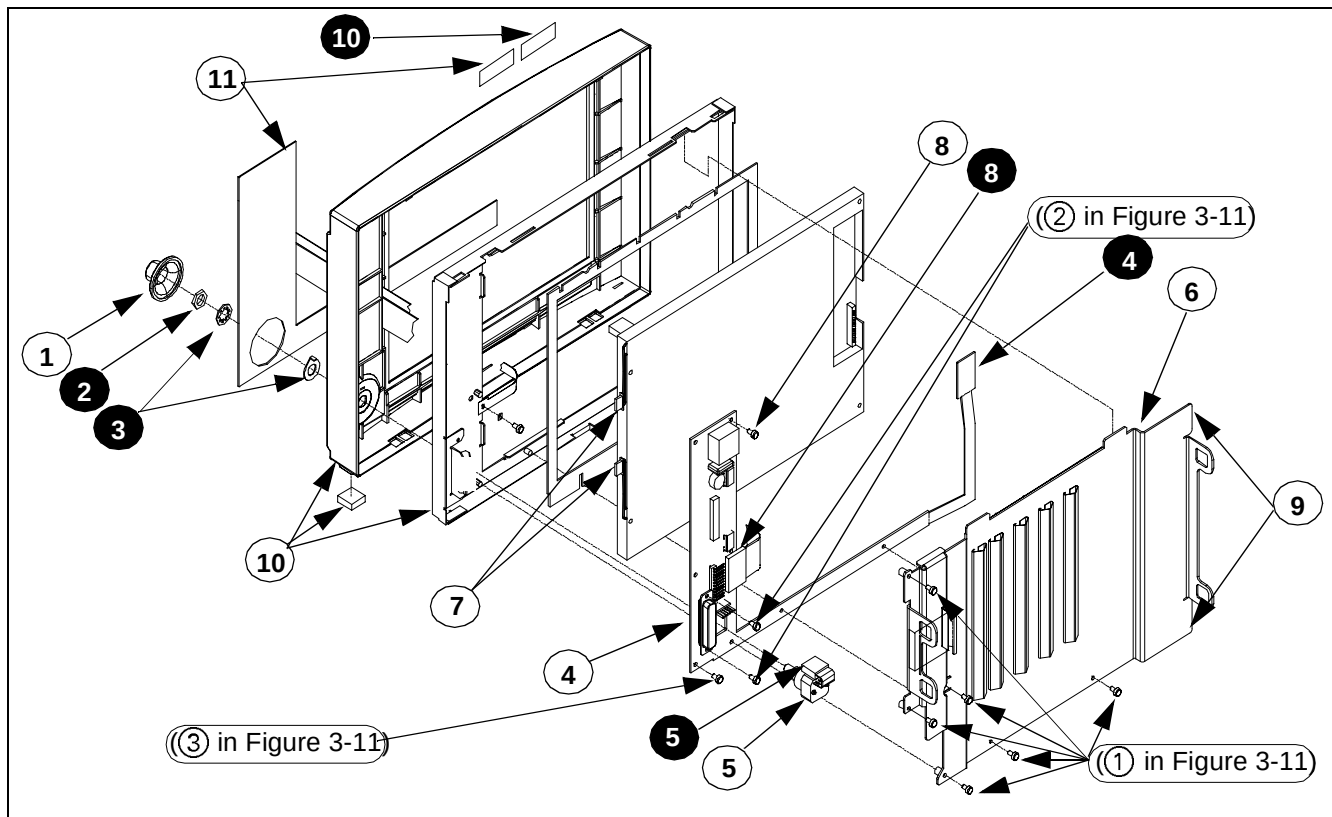
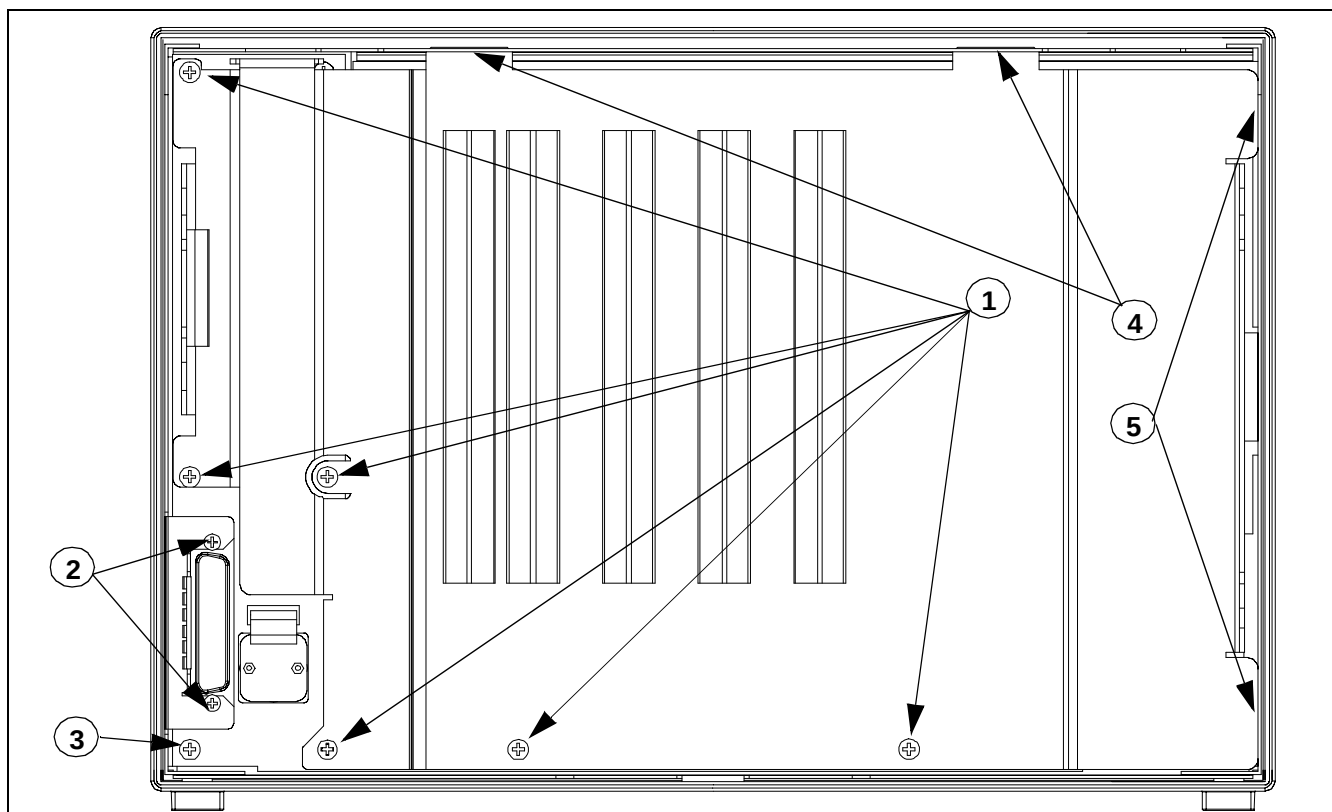
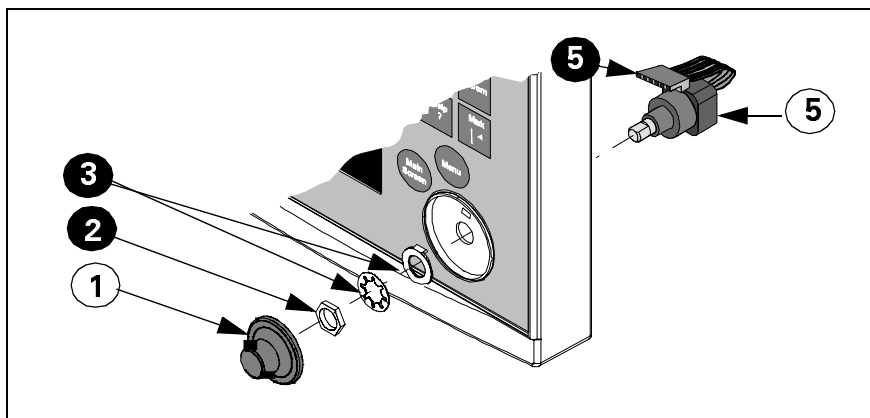

Figure 3-10 Front Bezel Subassembly Components. Note: Numbers in white circles call out replaceable parts. Numbers in black circles are referenced in text.
Figure 3-11 Front Bezel Subassembly - Interior View
Figure 3-12 Optical Encoder Subassembly. See Note in Figure 3-10 caption.
- **Front Bezel PCB Subassembly** (④ in Figure 3-10 on page 51)
- **Optical Encoder Subassembly** (①, ②, ③, and ⑤ in Figure 3-10 on page 51, also see Figure 3-12 on page 52)
- **Front Bezel/Lens Subassembly** (⑩ in Figure 3-10 on page 51, includes bezel w/ lens, display subassembly mounting frame, metal logo, and feet)
- 1) With front bezel subassembly laying face down on a smooth clean surface, remove and save six securing screws (see ① in Figure 3-11 on page 51) from retainer plate.
- 2) Move retainer plate slightly left to slide tabs on right hand side of plate (⑨ in Figure 3-10 and ⑤ in Figure 3-11 on page 51) out of tab slots in side of front bezel frame.
- 3) Lift bottom edge of retainer plate and slide plate out of tab slots (④ in Figure 3-11 on page 51) in top of front bezel frame.
- 5) Remove rotary knob (① in Figure 3-10 on page 51 and in Figure 3-12.
- 6) Unplug optical encoder ribbon cable connector (⑤ in Figure 3-10 on page 51 and Figure 3-12 on page 52) from Front Bezel PCB.
- 7) Refer to Figure 3-10 or Figure 3-12. Unscrew nut ② securing optical encoder shaft in position in front bezel, and remove optical encoder subassembly ⑤ through back of panel. Save nut, and lock washer / positioning washer combination ③ for use in reassembly.
- 8) Refer to Figure 3-10. Unplug membrane switch ribbon cable connector ⑧ and display backlight connectors ⑦ from Front Bezel PCB, and display screenflex cable connector ④ from display screen subassembly PC board.
- 9) Slide small screwdriver under tab near bottom on right hand side of display subassembly, and carefully lift display subassembly (④ in Figure 3-10) out of front bezel frame. Set subassembly aside on a **clean** flat surface for use in reassembly.
- 10) Remove and save two screws (② in Figure 3-11 on page 51) securing Front Bezel PC Board interface connector to mounting tabs on front bezel frame.
- 11) Remove and save two remaining screws (③ in Figure 3-11 and ⑧ in Figure 3-10) securing Front Bezel PC Board to front bezel frame.
- 6) Refer to Figure 3-10 on page 51. Plug display screen flex cable connector **4** into display screen subassembly PC board, and display backlight connectors **7** and membrane switch ribbon cable connector **8** into Front Bezel PC Board.
- 11) Slide retainer plate tabs into tab slots (**4** in Figure 3-11 on page 51) in top of front bezel frame.
The backlight fluorescent lamps are located inside the display screen subassembly (⑦ in Figure 3-10 on page 51). Replace lamps as follows:
- 1) With front bezel subassembly separated from rear housing and laying face down on a smooth clean surface, remove and save six screws (① in Figure 3-11 on page 51) from retainer plate (⑥ in Figure 3-10).
- 3) Lift bottom edge of retainer plate and slide plate out of tab slots (④ in Figure 3-11) in top of front bezel frame, and set aside for reassembly.
- 4) Unplug display screen flex cable connector (④ in Figure 3-10) from display screen subassembly PC board. Note pad that keeps connector in place.
A replacement Front Bezel/Lens Subassembly ships with an installed lens, mounting frame, Siemens Metal Logo, and feet. The Language Label Set which includes SC 7000 and SC 9000XL Monitor Model Labels (see ⑩ in Figure 3-10 on page 51) must be ordered separately,